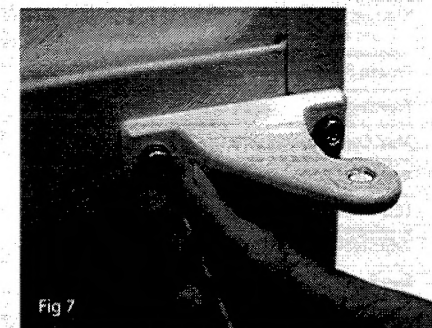

Fig 7
10. Remove centre hinge bracket (Fig 7), washers and screws, refit on left.